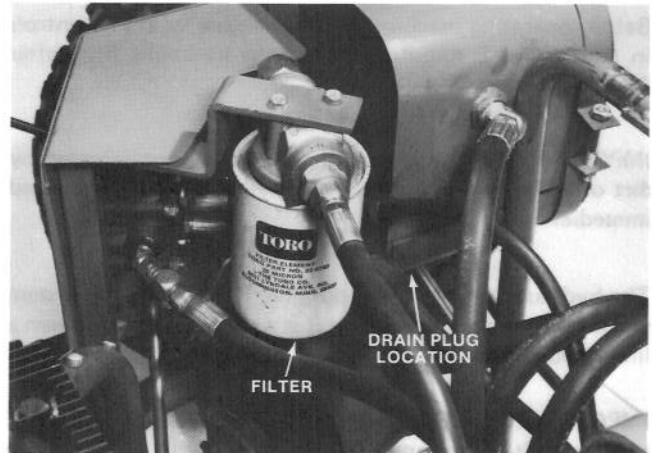

Figure 14
2. The hydraulic oil is drained by removing the drain plug on the bottom of the hydraulic reservoir (Fig. 14).
4. A 25 micron spin on type oil filter is located in front of the hydraulic reservoir under the right hand shroud (Fig. 14). The filter should be replaced after the first 10 hours and every time oil is changed. Fill the filter with the recommended oil before installing.